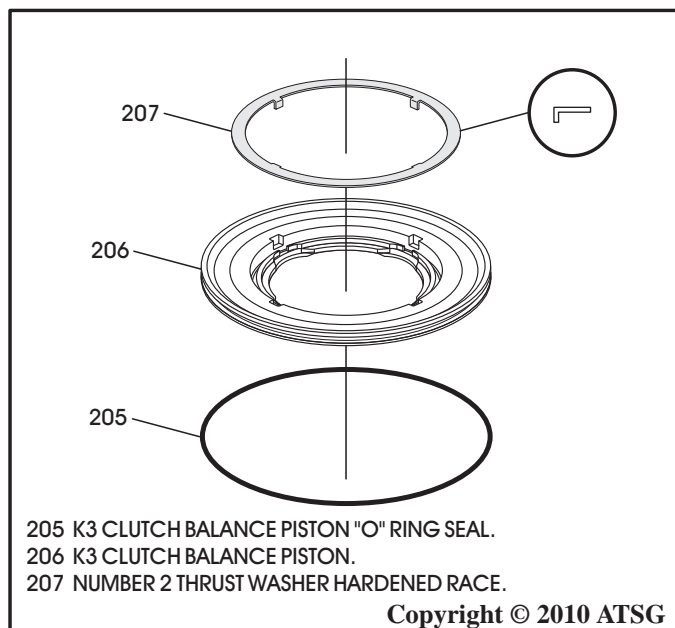

Figure 135
5. Install new "O" ring seal on K3 clutch balance piston, as shown in Figure 135, and lube with a small amount of Trans-Jel®.
6. Install the number 2 thrust washer race onto balance piston, as shown in Figure 135, and retain with Trans-Jel®.